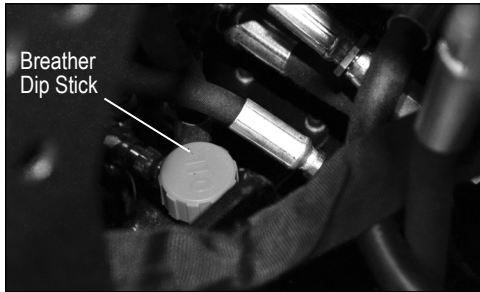

FIG. 1
1. Remove breather dip stick (Figure 1).